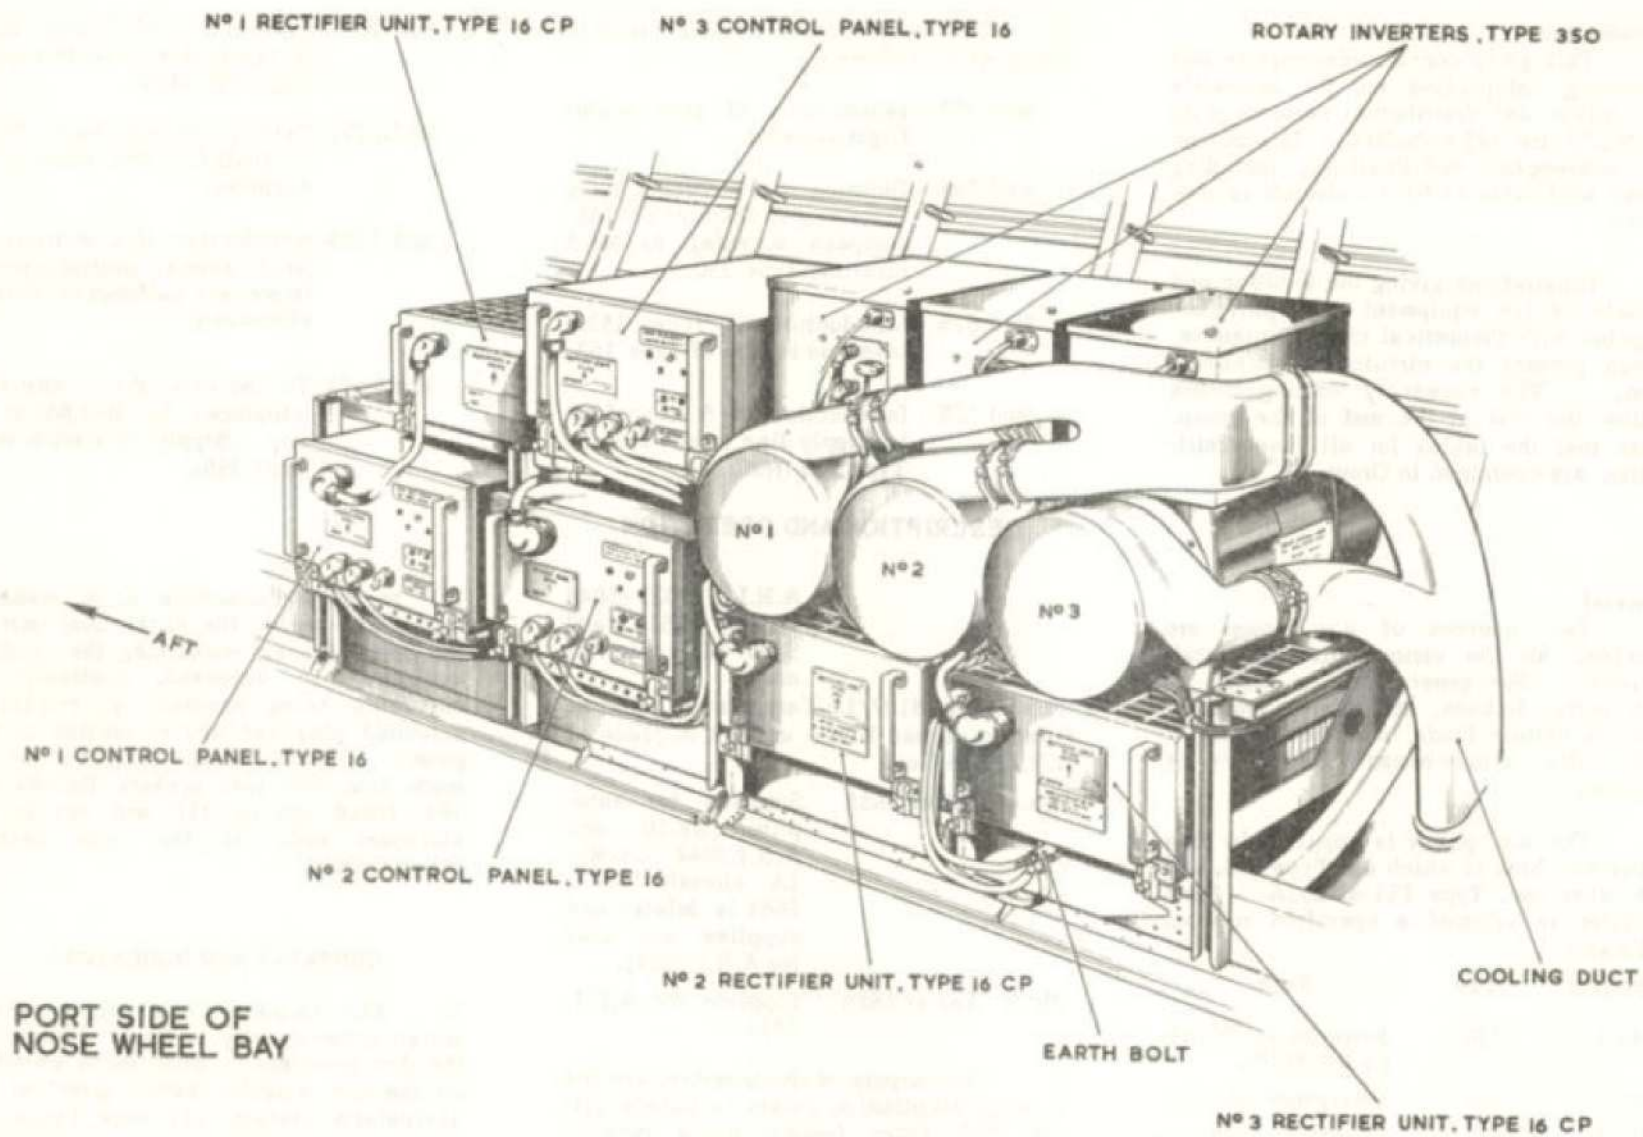

Fig.2 Location of type 350 inverters
13. The three Type 350 inverters, together with their associated control panels and rectifier units, are fitted in a compact group at the forward end, port side of the nose wheel bay. Their arrangement and method of securing is illustrated in fig.2. Designed to give outputs of 115-volt, 3-phase, 400 c/s and 115-volt, single-phase, 1,600 c/s, these units are driven by d.c. motors operating on 112 volts. The inverters are fitted with extractor fans which ensure adequate cooling whilst the aircraft is on the ground. Additional cooling to satisfy airborne conditions is provided by piped connections to a ram air intake in the structure below the inverters. To prevent damage to the inverters due to ingress of ice particles, the cooling duct is fitted with a de-icing heater, details of which will be found in Group 8 of this publication. The outputs of the inverters are fed to the main distribution points in panel 11P. A full description of the Type 350 inverter, and associated control panel and rectifier unit, is given in A.P.4343B, Vol.1.